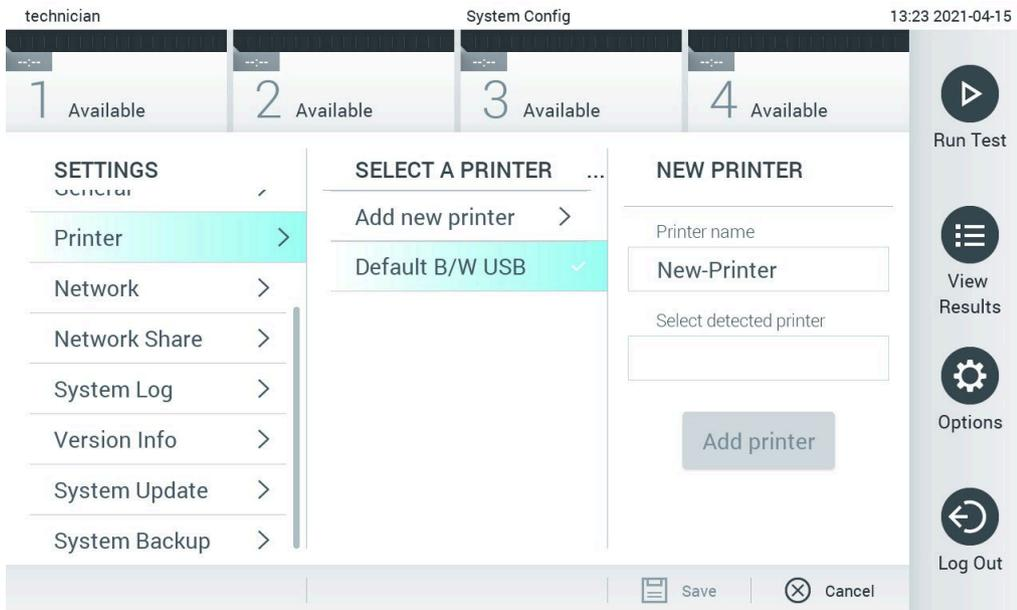

Figure 101. Printer installation with driver installation
5. Click on **Add Printer** (Figure 101).